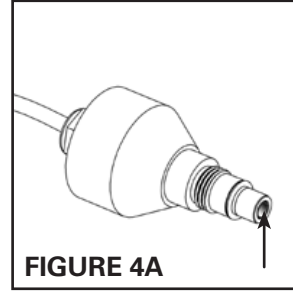

FIGURE 4A
2. Once the sensor is free from the reactor chamber, clean the quartz window (Figure 4A) with a commercial scale remover (CLR or Lime-A-Way) and a lint free cotton swab (Figure 4D). Follow all manufacturer's instructions regarding the cleaning fluid used. Do not use an abrasive cleaner on the sensor window. Scratching of the sensor window will void any manufacturer's warranty on this item.